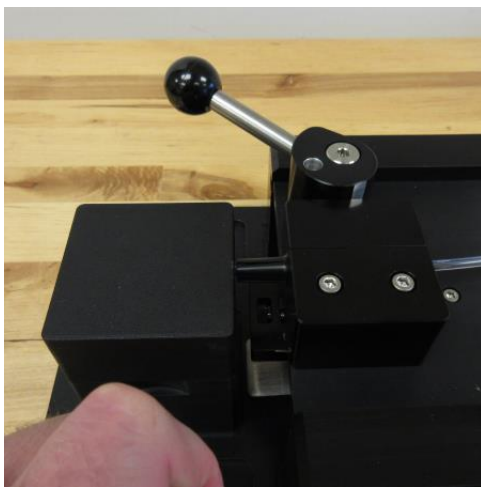

Figure 9
- Pull thrust lever back until fitting is inserted to desired position. (Figure 9)